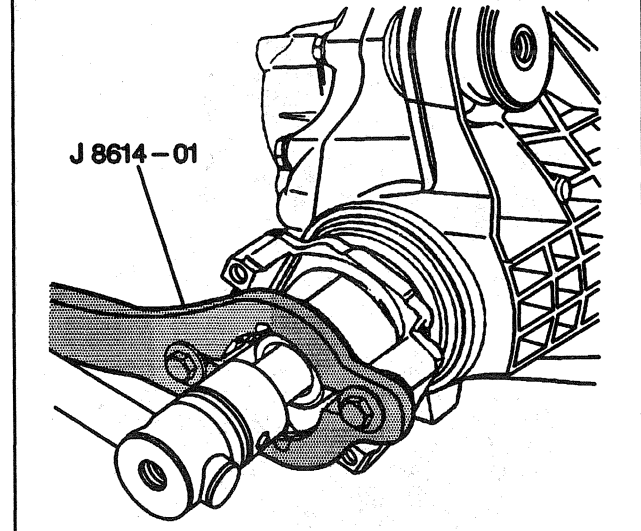

Figure 16—Removing the Pinion Nut and Flange
24. Nut. Use J 8614-01 to hold the pinion flange (Figure 16).
26. Pinion flange with deflector. Use J 8614-01 (Figure 16).